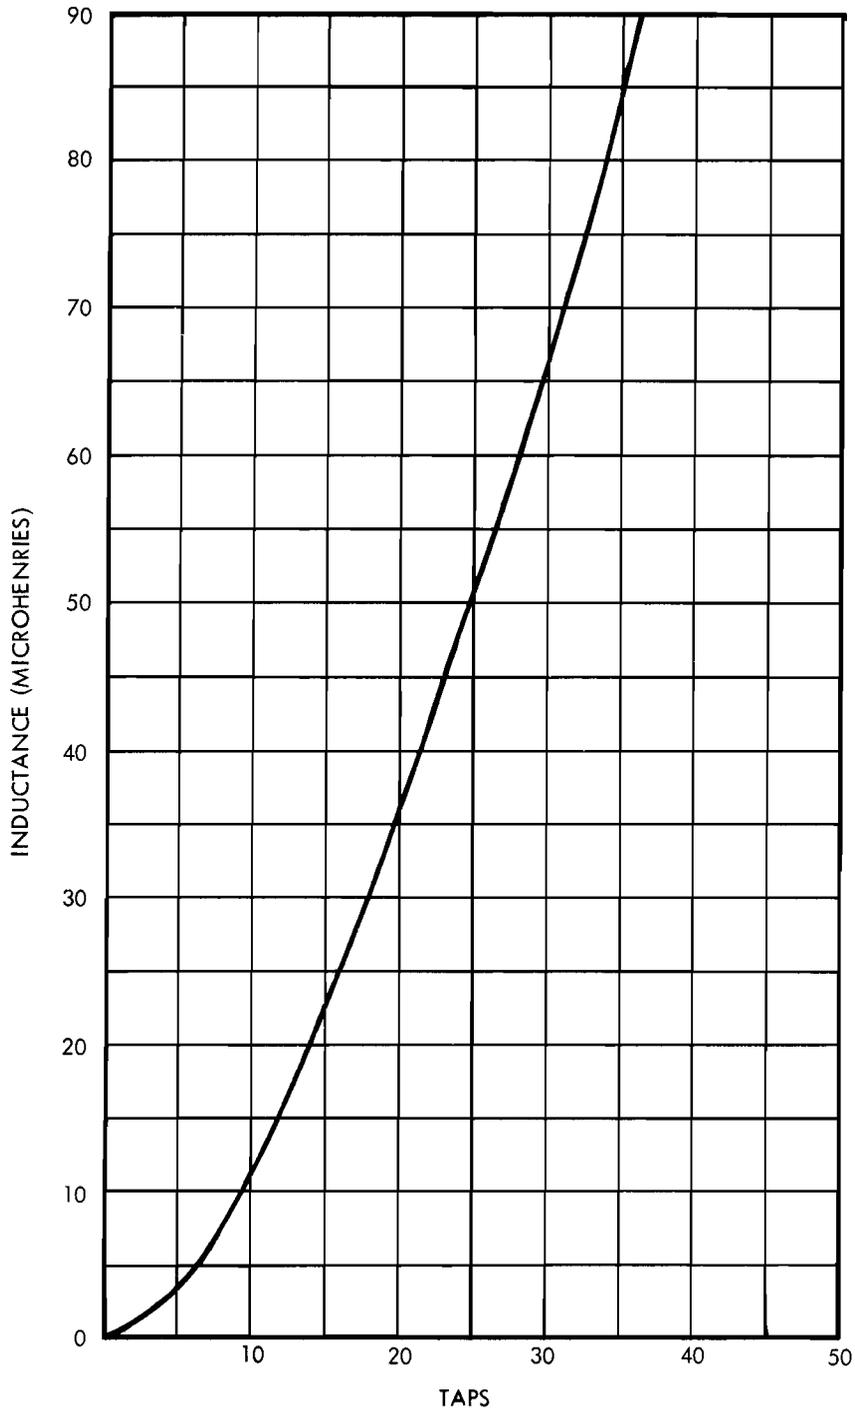

Figure 4-17. Tap-versus-Inductance Chart
h. Determine the coil tap to be used from the tap-versus-inductance chart (Figure 4-17). This tap number will be the maximum inductance value required. If all 10 channels are programmed to the coil the resultant stray inductance may move the tap as much as three turns lower.
- g. Refer to Figure 4-17 and find that 8.64  $\mu$ h is tap No. 8. Always use the next lowest tap because of lead inductance being added to the total. Connect the Channel-4 wire (yellow) to that tap.